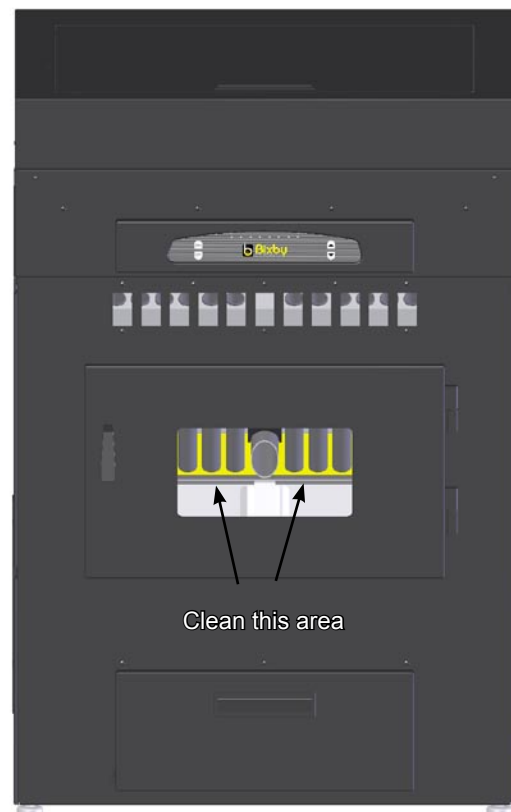

FIGURE 29
4. Using a shop vac, clean the ash around the base of the tubes. See Figure 29.